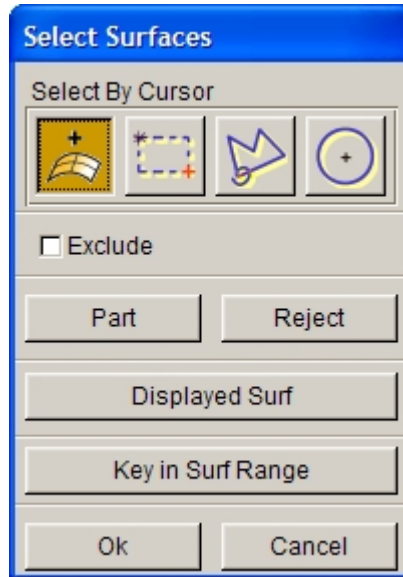

Figure 4.4.7 Select Surface dialog box
- Click on the SURFACE(S) button to open SELECT SURFACE dialog box as illustrated in Figure 4.4.7